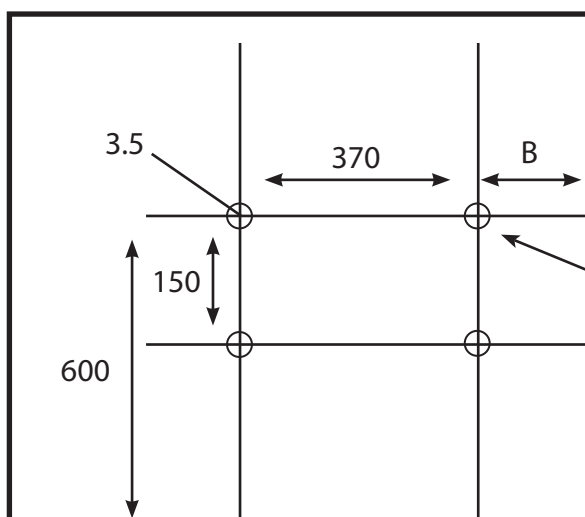
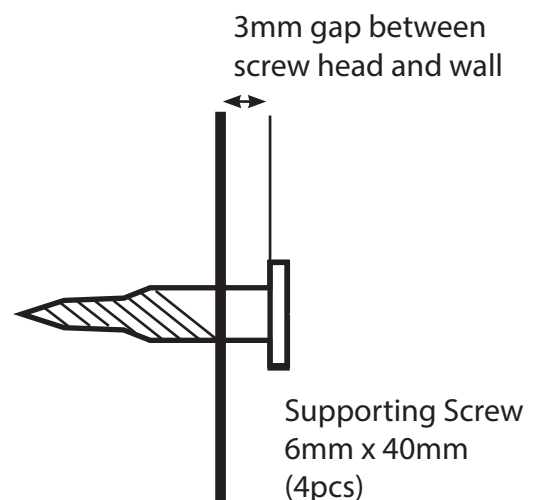

Fig. 3a
Fig. 3b
- x. The upper supporting screws must be fixed tightly, there is a 3mm gap between the screw head and wall (refer fig 3a, fig 3b), additional retaining screws should be inserted into the round holes to prevent the heater being lifted.